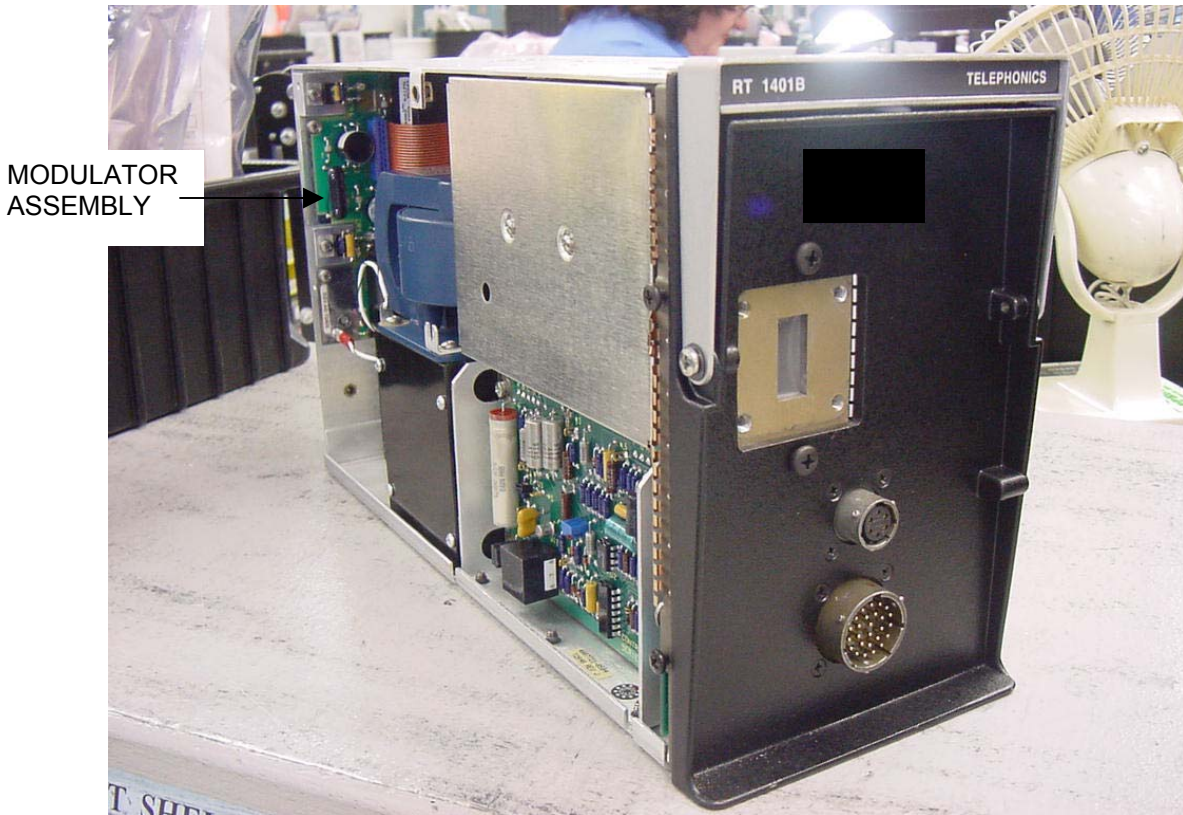

Figure 1. Unit with Dust Cover Removed
- d. See Figure 1. Unfasten two 8x32 screws that secure the Modulator Assembly to the unit.